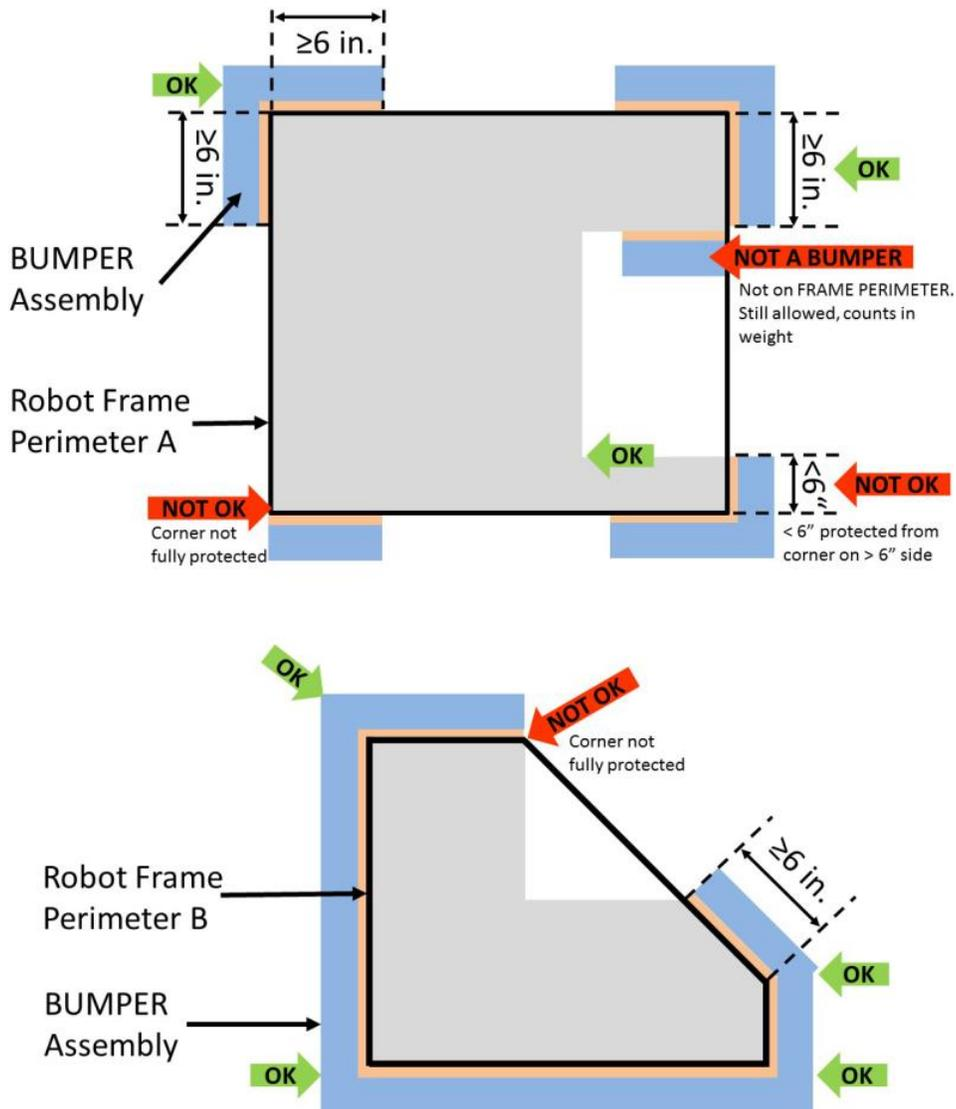
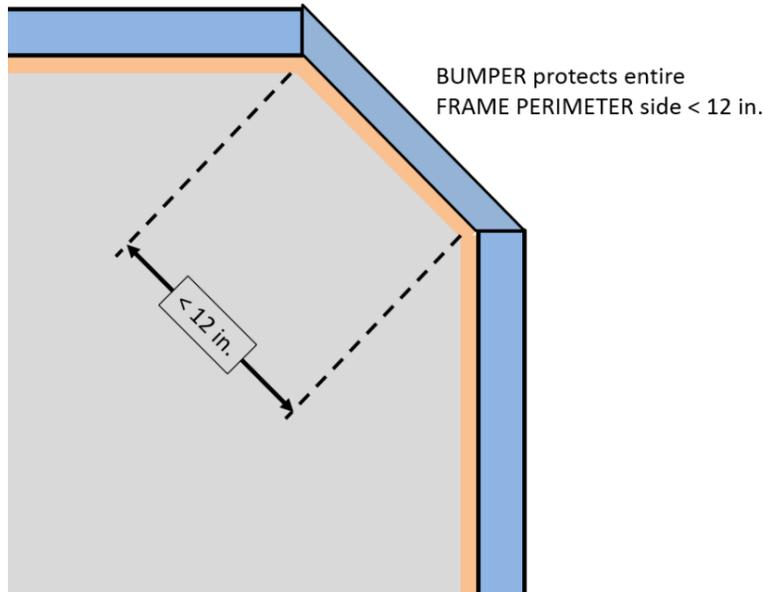

Figure 9-2 BUMPER corner examples
Figure 9-3 BUMPER around full side/corner
- R17.** ROBOTS are required to use BUMPERS to protect all outside corners of the FRAME PERIMETER. For adequate protection, at least 6 in. (~16 cm) of BUMPER must be placed on each side of each outside corner (see Figure 9-2 BUMPER corner examples) and must extend to within ¼ in. (~6 mm) of the FRAME PERIMETER corner. If a FRAME PERIMETER side is shorter than 12 in. (~31 cm), that entire side must be protected by BUMPER (see Figure 9-3). A round or circular FRAME PERIMETER, or segment of the FRAME PERIMETER, is considered to have an infinite number of corners, therefore the entire frame or frame segment must be completely protected by BUMPER(S).
The dimension defined in R17 is measured along the FRAME PERIMETER. The portion of the BUMPER that extends beyond the corner of the FRAME PERIMETER is not included in the 6 in. (~16 cm) requirement. See Figure 9-2.